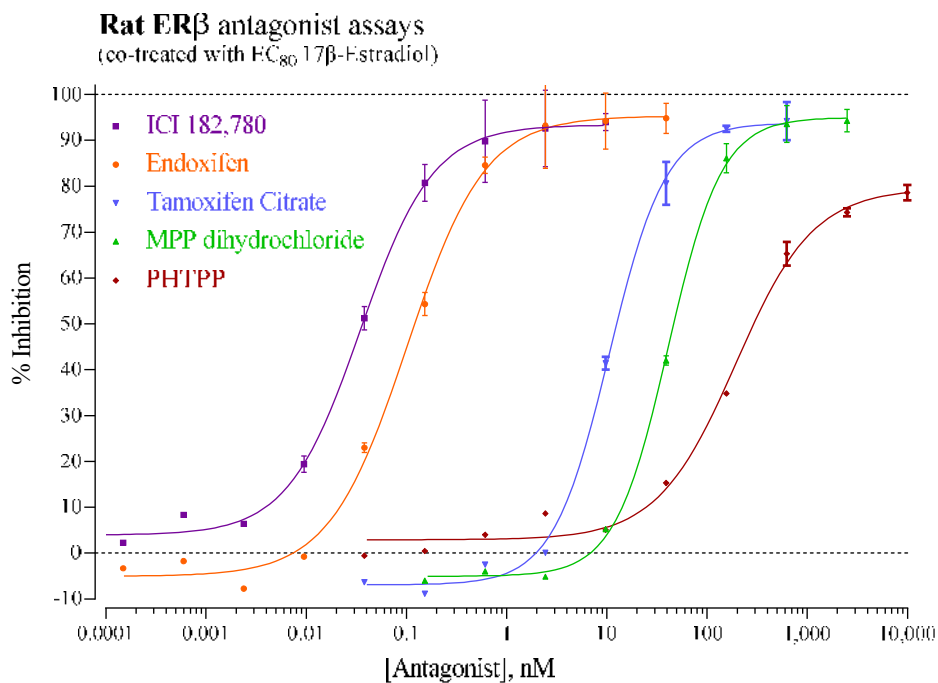

Figure 3. Antagonist dose-response analyses of the Rat ER β assay.
- *Optional:* Reference Antagonist (refer to Fig 3.)